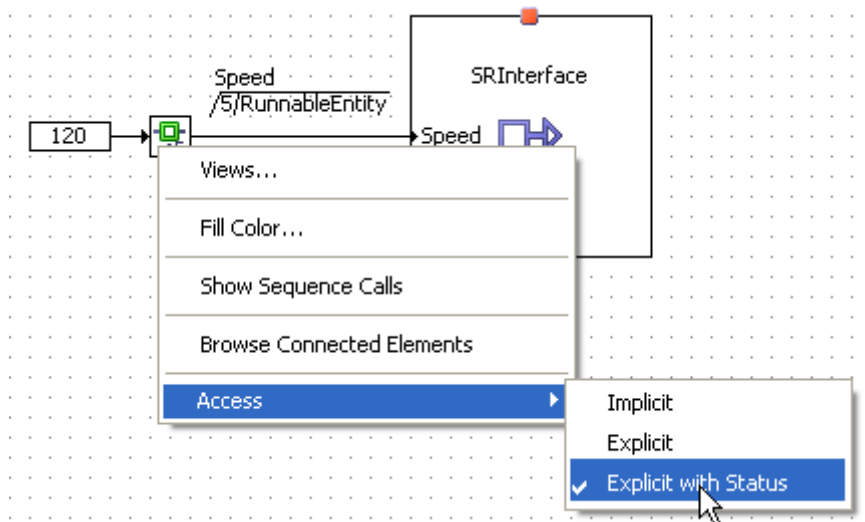

Figure 62: Setting explicit communication with status.
- In the drawing area of the software component editor, right-click the `RTE` access operator and select **Access → Explicit with Status** from the context menu (see Figure 62).